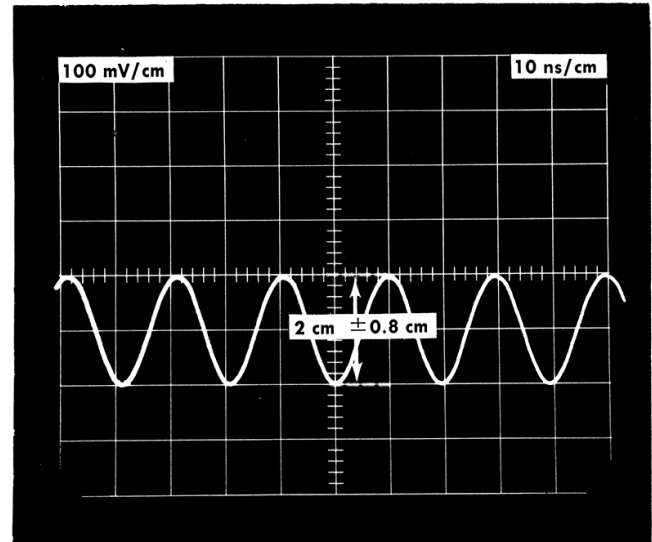

Fig. 6-22. Typical display for step 13 showing Sine Wave Trigger Output signal.
d. Check that the sine wave trigger amplitude is within $2 \text{ cm} \pm 0.8 \text{ cm}$, ($200 \text{ mV} \pm 40\%$ peak to peak). See Fig. 6-22.